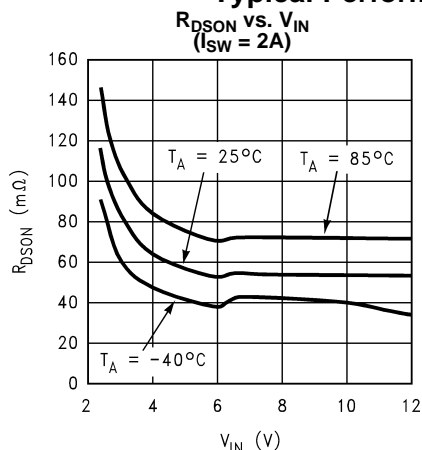

Figure 9.
- $R_{DS(on)}$ is the ON resistance of the internal switch taken Figure 9 (5)
- $R_{DS(on)}$ is the value chosen from Figure 9 (19)